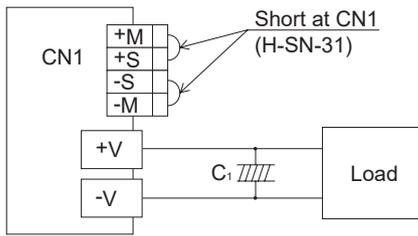
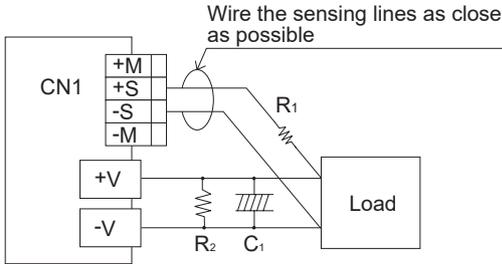

Fig.5.22 When not using remote sensing function
Fig.5.23 When using remote sensing function
- The wire connection when remote sensing is used or not used is shown in Fig. 5.22 - Fig. 5.23.
- ① Wiring must be done carefully. If there is bad connection on the load lines due to loose screws, etc., the load current flows into the sensing lines and the internal circuit of the power supply may be damaged.
- ② Make sure the wires between the load and the power supply are thick enough to keep the line drop less than 0.3V.
- ③ If the sensing wires are long, place C1 and R1 across the load lines.
- ④ Use a twisted pair wire or a shielded wire for the sensing lines.
- ⑤ Do not draw the output current from +M, -M, +S or -S.
- ⑥ The impedance of the wiring or the load may cause the output voltage to oscillate or fluctuate.